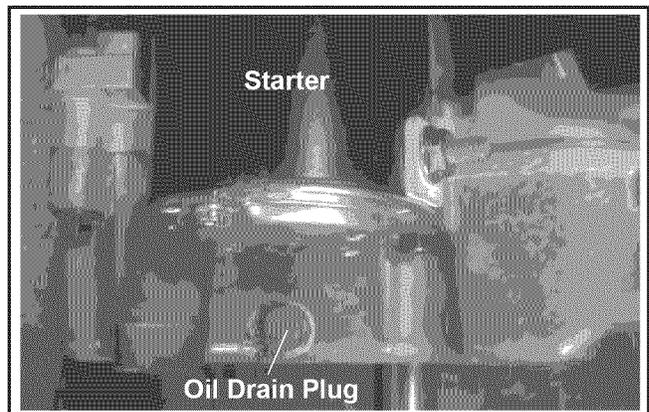

Figure 8. Oil Drain Plug.
1. The drain plug is located on the starter side of the oil pan. See Figure 8. Clean the area around the oil drain plug and the oil fill cap/dipstick.